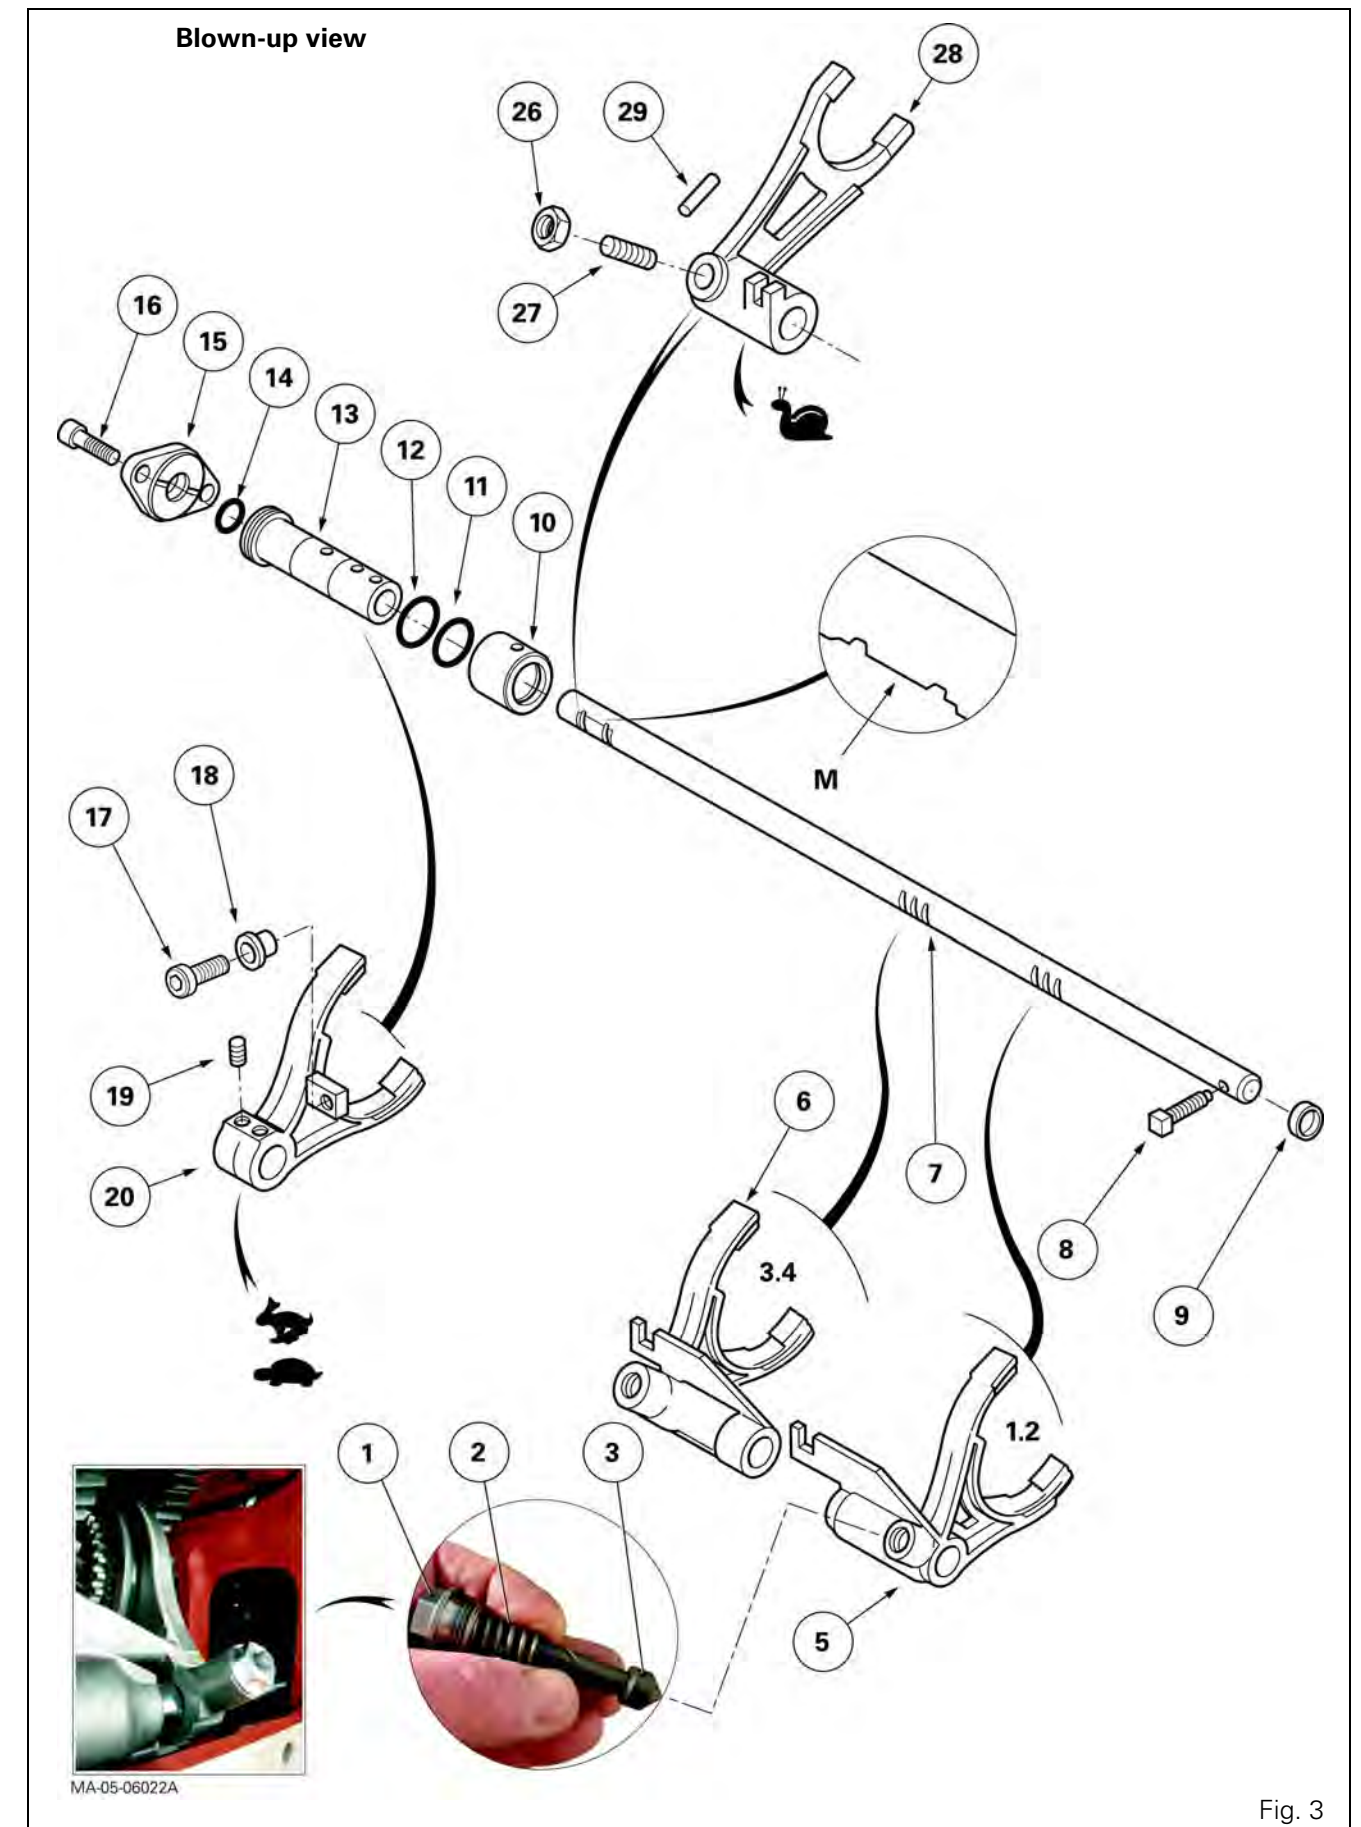

Fig. 3
Parts list (Fig. 3)
3. Remove the selector cover plate (see chapter 5). Take out the plugs (1), the springs (2) and the detent plungers (3) to release the selector rail (Fig. 3).